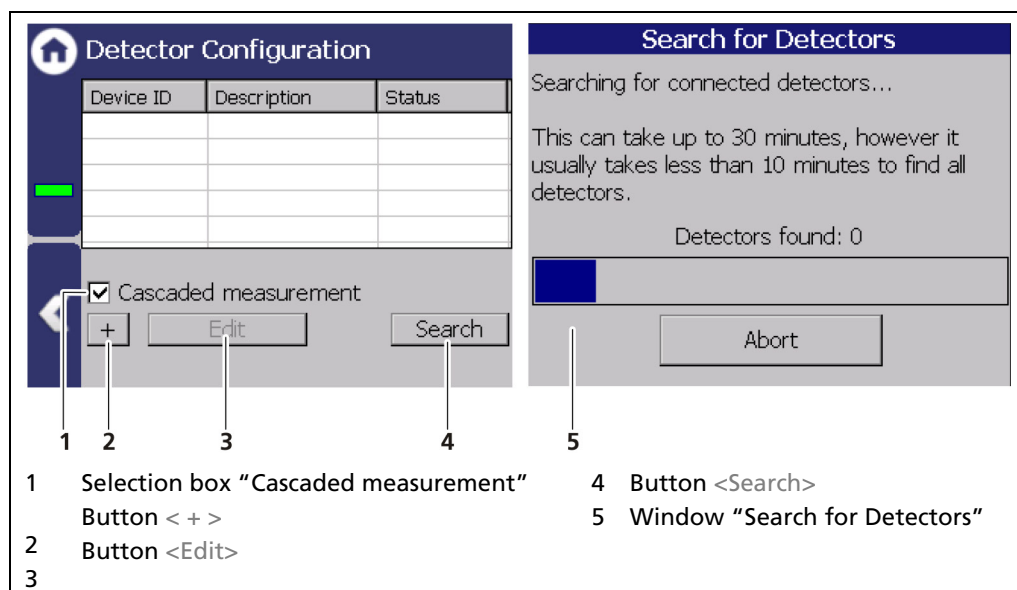

Fig. 56 Configure cascaded system
1. If the connection to the EVU (Master-Slave) is correct, the detectors type LB 47xx are detected and incorporated automatically. Click on the button <Search> (Fig. 56, item 4) to incorporate connected detectors.
2. Activate the selection box "Cascaded measurement" (Fig. 56, item 1).